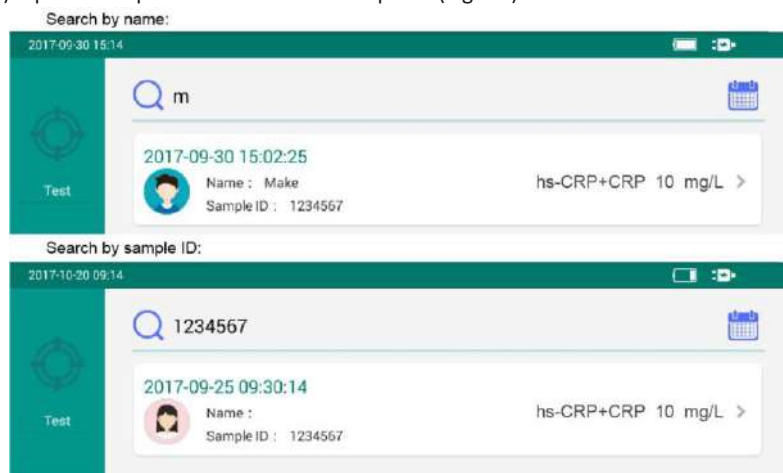

Fig.3-5 Search by Name and Sample ID
1) Input full or part of the Name or Sample ID (Fig.3-5).